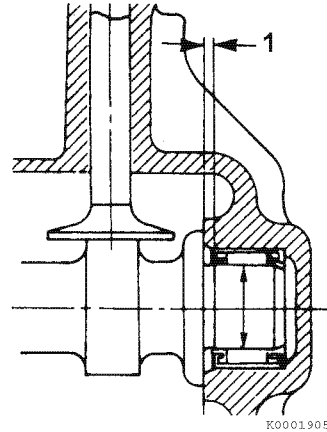

Figure 6-62
1. Measure the installed depth (1, **Figure 6-62**) of the camshaft needle bearing on the cylinder block side. Record the measurement.
3. Press the new needle bearing to a depth of 0.055 - 0.059 in. (1.4 - 1.5 mm) (1, **Figure 6-62**).